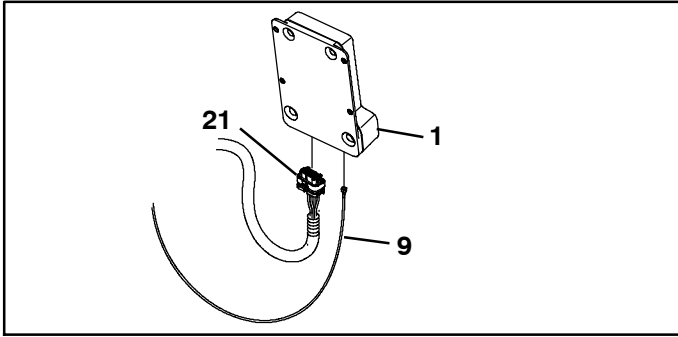

FIG. 7
7. Connect the antenna (9) cable and the telemetry harness (21) to the telemetry control box (1). (FIG. 7)